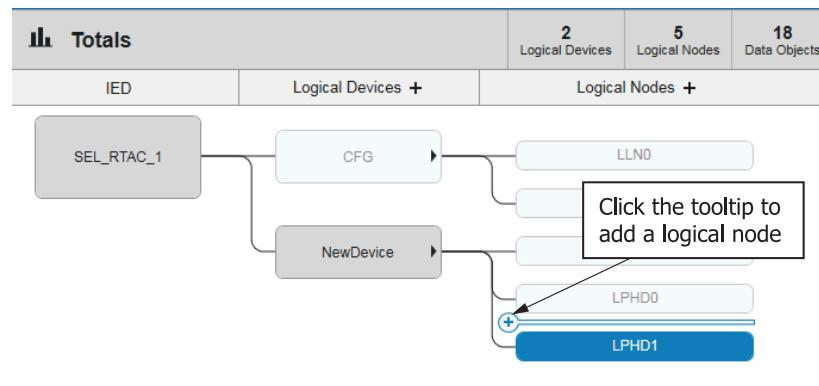

Figure 2.51 Add a New Logical Node
Step 6. Create a new logical device by clicking **Logical Devices +**. Notice that all logical devices have two non-editable logical nodes. Click **Logical Nodes +** to create a new editable logical node. You can also hover your cursor in the window for selectable tooltips. See *Figure 2.51*.